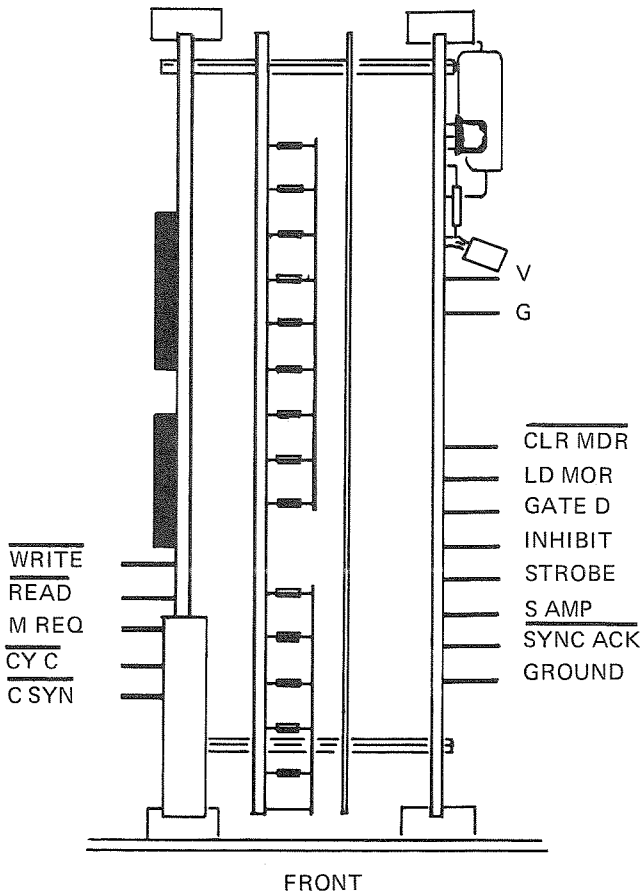

Fig. 9. Location of READ test point on the Memory Controller & Address Driver board.
9. Connect the probe, attached to the Test Oscilloscope CH 1 input, to the READ test point on the Memory Controller & Address Driver board. This test point is located on the front edge of the board, second pin down. See Fig. 9.